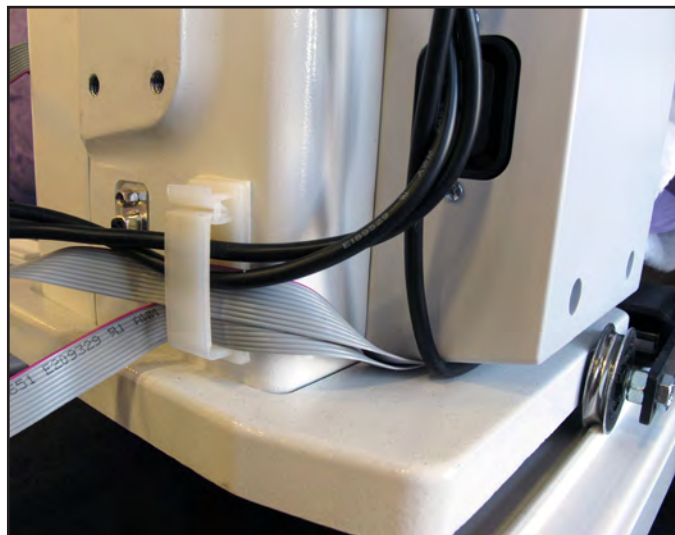
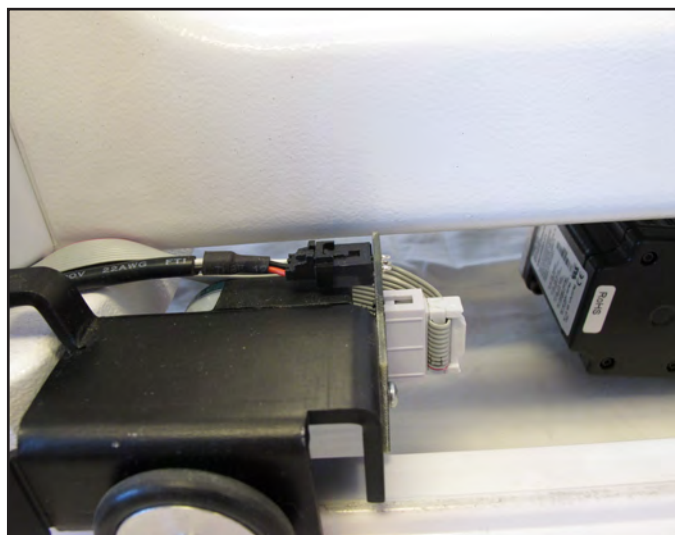

Figure 3.20
Figure 3.21
6. The small black cable with the black 3-connector clip should be routed underneath the P-Pod (**Figure 3.20**) and snapped into the quilting machine's "Y" encoder (**Figure 3.21**).
The two black cables that run from the carriage up to the computer should be clipped into the cable clip under the rear handlebar as shown in **Figure 3.20** to help prevent these cables from getting caught on the edges of the carriage.